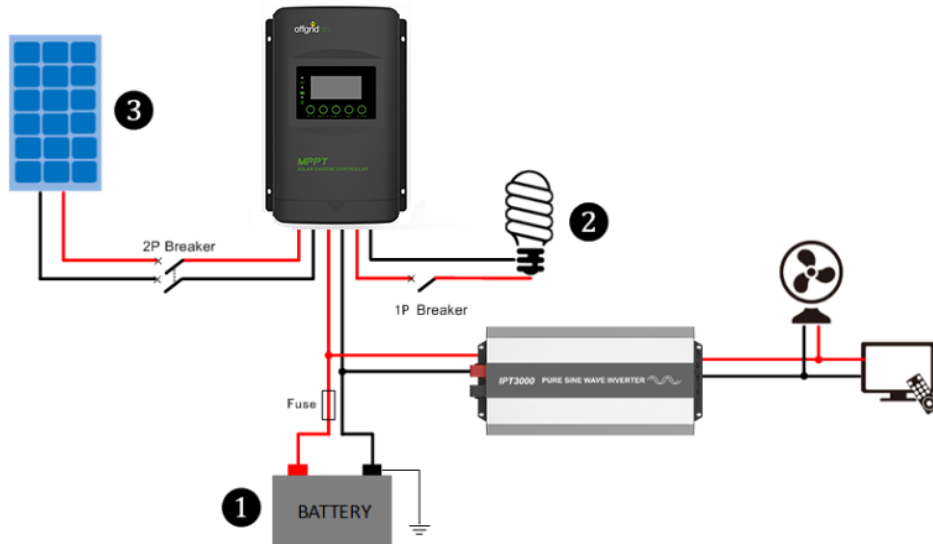

Figure 2.2 Schematic of wiring diagram
Step 2: Connect the system in the order of ① battery ② load ③ PV array by Figure 2.2 "Schematic Wiring Diagram" and disconnect the system in the reverse order ③ ② ①.